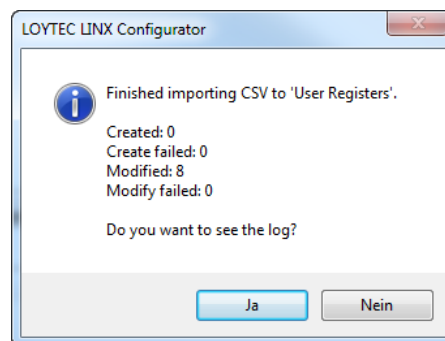

Figure 66: Report on an imported data point CSV.
3. Choose a CSV file to be imported. The Configurator opens that file and applies the properties to the existing data points. When finished a report is shown as depicted in Figure 66.